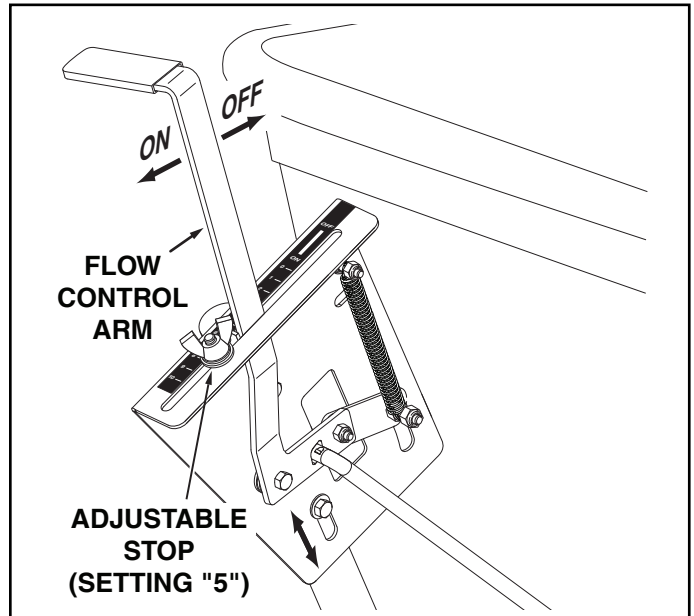

FIGURE 9
16. Calibrate the flow control setting. (See figure 9).
(Refer to figure 9 on page 6.)